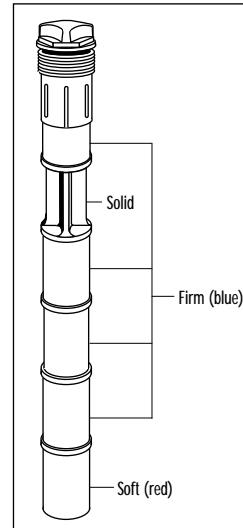

Figure 2 Q21R
will hit the top tube before the ROCK SHOX cable mount hits the down tube, as long as there is no conflict with stem engagement (see Figures 2 & 4).
**Tuning:** Different types of elastomers are available from your dealer. You can custom tune your forks by changing the stiffness of the elastomer to get the type of ride you desire. The Q5 stock elastomer is medium in stiffness. Available options are: Stiff, Soft and Cold Weather for temperatures below 35°F (1°C). The Q21R stock microcellular spring setting is 4 firm (blue), 1 soft (red), and 1 solid per leg. (See Figure 2)